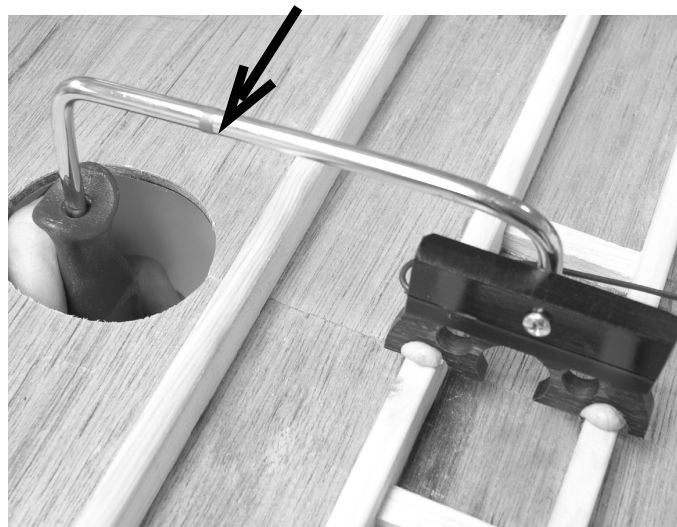

Fig 5
- 5) Note a marker band on the shaft of the tool (as shown by the arrow in fig 5). When this band is lined up with the edge of the sound hole, the pickup should be in exactly the right position over the braces for installation.(fig 5)